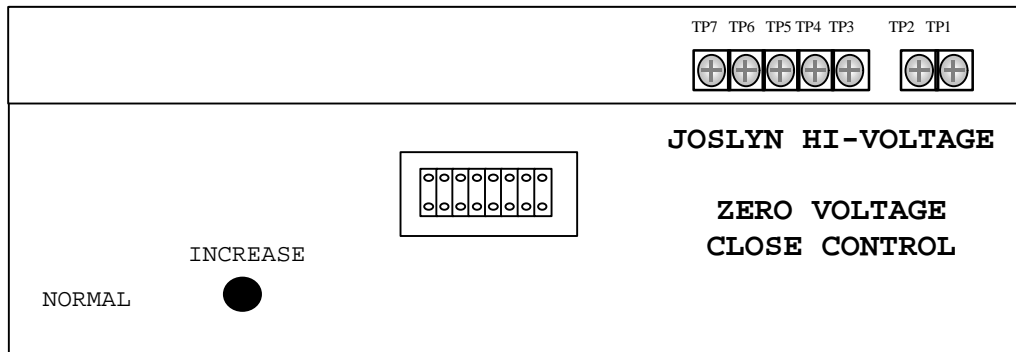

Figure 1: SCR Board Test Terminals
*If desired, the capacitor voltage can be measured for each phase in the field by utilizing the test terminals points located in the upper right corner of the control and just above the front display panel. The acceptable capacitor voltage values range is between 185 to 205VDC (Nominal voltage of 195VDC) with the higher value being associated with internal low ambient temperature compensation logic. The common terminal point is located at test point TP1. Test point TP2 measures the control supply voltage (approximately 10VDC), TP3 measures Phase C, TP5 measures Phase B, and TP6 measures Phase A. See **Figure 1** for additional details on the terminal locations.*